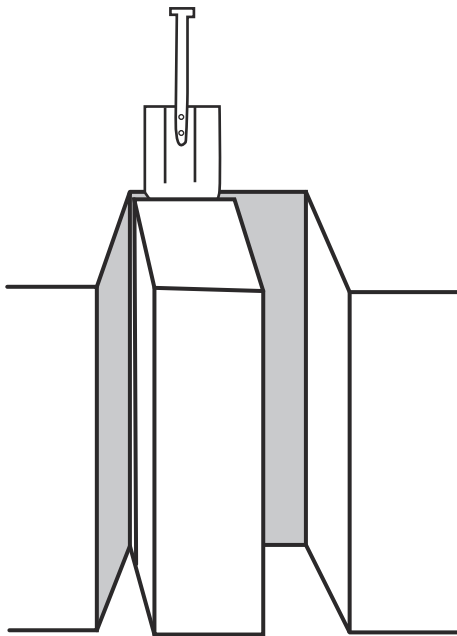

Figure 1-6. Shovel Shear Test.
- Isolate a column in the uphill pit wall by cutting away the sides with a shovel or ski. The width of this column and the depth cut into the pit should be approximately 12 inches (30.5 cm). The column must be both vertical and smooth (see fig. 1-6).